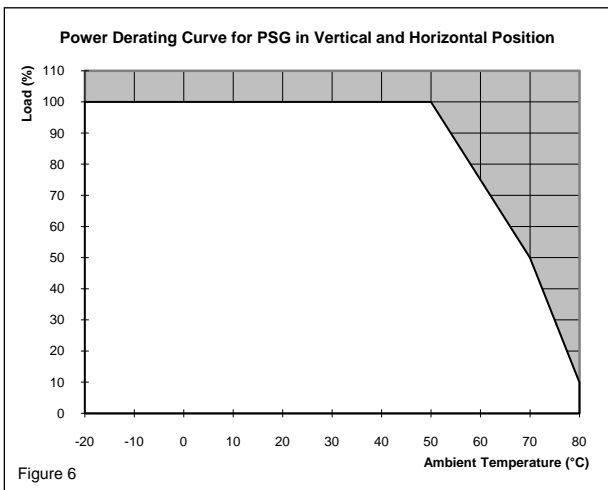

Figure 6
5.4. Thermal behavior (Fig. 6)
Operating temperature (surrounding air temperature)	-20°C to +80°C (Refer to Fig. 6)